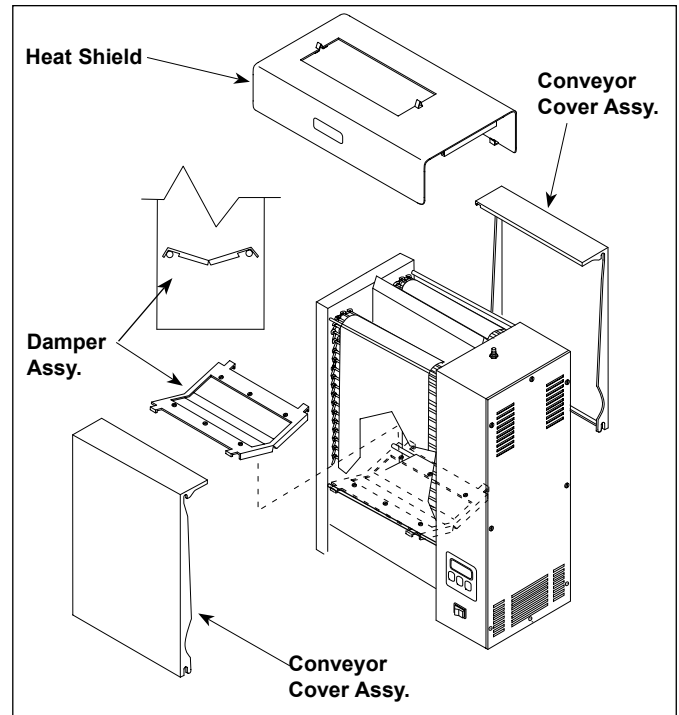

Figure 1. Installing Damper Assy.
- damper assembly (Figure 1).
2. Install the damper assy. (Figure 1).